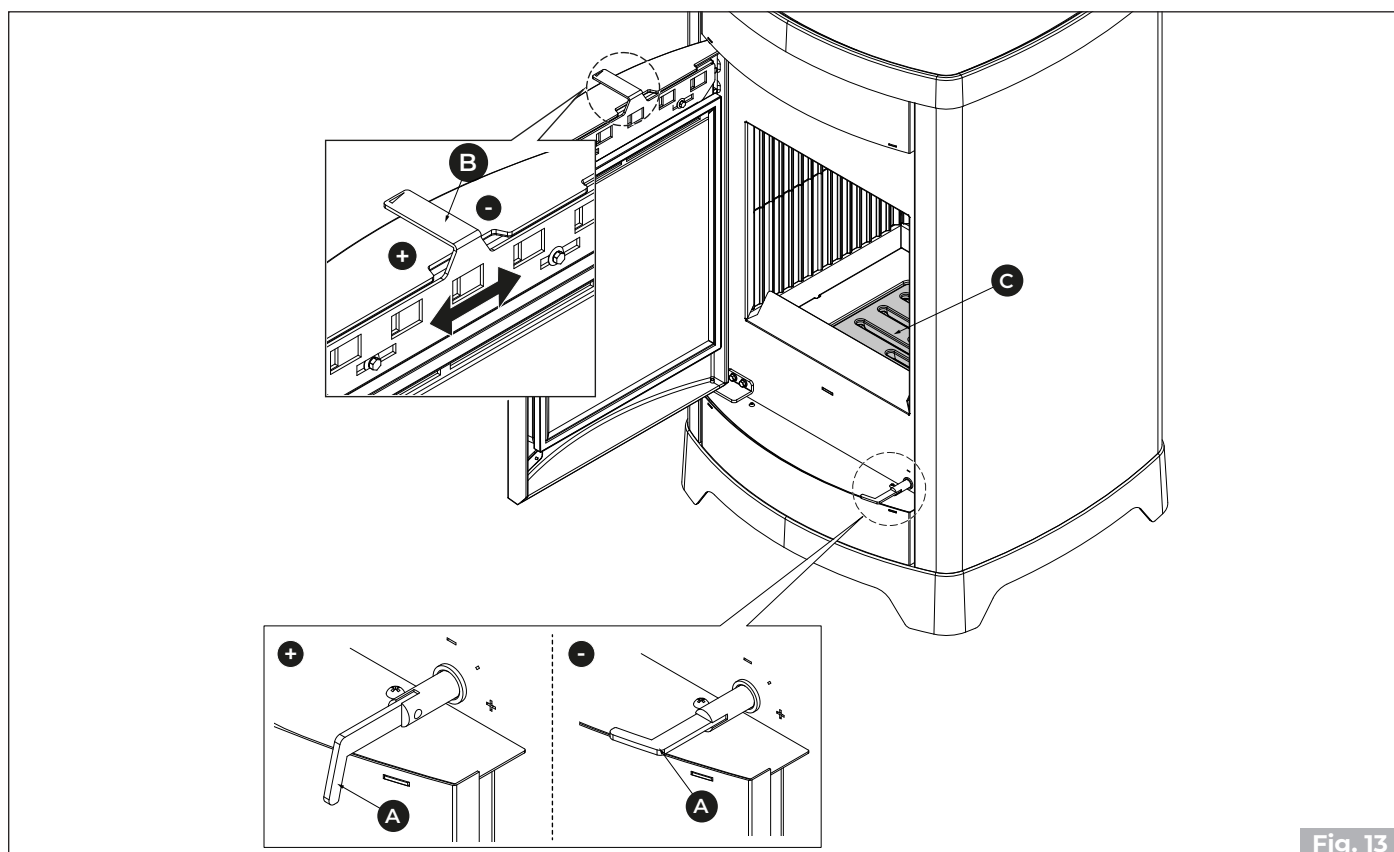

Fig. 13
- Carefully place the pieces of wood in fire box grate **(C)** (**Fig. 13**).
Combustion is adjusted using the air regulator (A) (**Fig. 13**). Turning it toward the symbols (+) or (-) a higher or lower flow of combustion air will be obtained and consequently a faster or slower combustion will result.